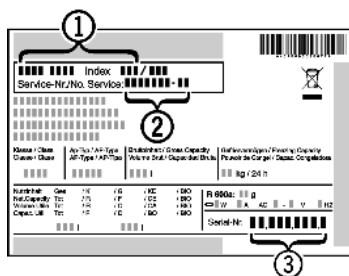

Fig. 23
- ▶ Read the appliance designation Fig. 23 (1), service No. Fig. 23 (2) and serial No. Fig. 23 (3) off the type plate located inside the appliance on the left-hand side.
- ▶ Notify the customer service, specifying the fault, appliance designation Fig. 23 (1), service No. Fig. 23 (2) and serial No. Fig. 23 (3).